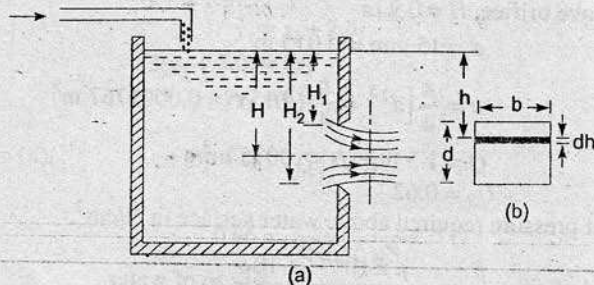

Fig. 7.7 Large rectangular orifice.
7.6.1 Discharge Through Large Rectangular Orifice. Consider a large rectangular orifice in one side of the tank discharging freely into atmosphere under a constant head, H as shown in Fig. 7.7.
Consider an elementary horizontal strip of depth ' dh ' at a depth of ' h ' below the free surface of the liquid in the tank as shown in Fig. 7.7 (b).